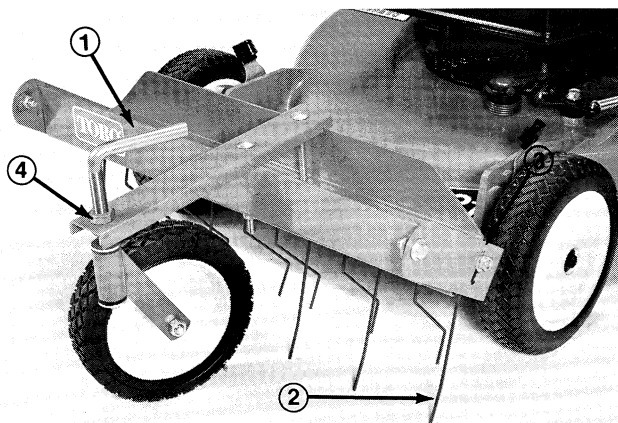

Figure 9
1. With mower and dethatcher on hard, level surface, set spring height by turning caster wheel handle. Recommended initial setting is so spring tips are 1/2" above hard surface (Fig. 9).
2. Loosen nuts securing spring guide rod to side frames, and raise or lower side frames to level springs from front to back (Fig. 9). Retighten nuts and caster handle jam nut.